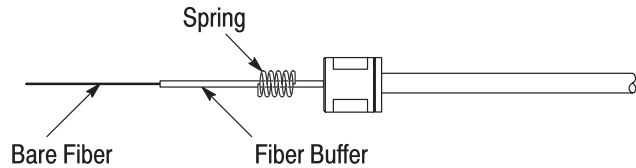

Figure 5
6. Using the micrometer or caliper, measure the crimp sleeve across the flats of the hex crimp to make sure that it conforms to the crimp height and crimp width shown in Figure 5, Detail A. If necessary, crimp again, and re-measure the crimp.
7. At the back of the crimp support, apply the instant adhesive around the circumference of the crimp support at the junction of the cable and the crimp sleeve. Then at the front of the crimp sleeve, apply the adhesive over the opening of the crimp sleeve to encapsulate the strength members. See Figure 5, Detail B. Remove any excess adhesive.
8. Mark the fiber at the dimension shown in Figure 5, Detail C, and using the fiber stripping tool, strip the buffer to the mark, exposing the bare fiber. Using a lint-free tissue or cloth dampened with the isopropyl alcohol or acetone, clean the bare fiber.
9. Slide the spring over the fiber. See Figure 5, Detail D.